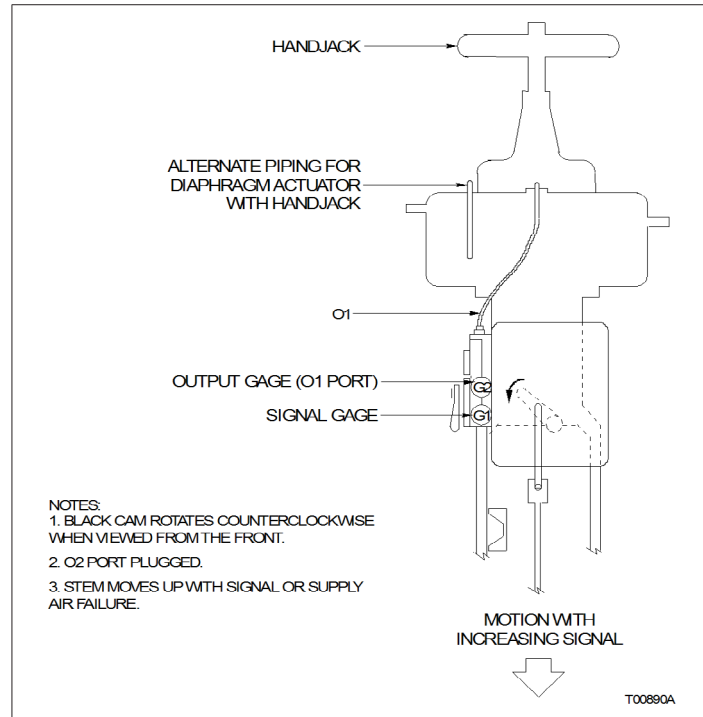
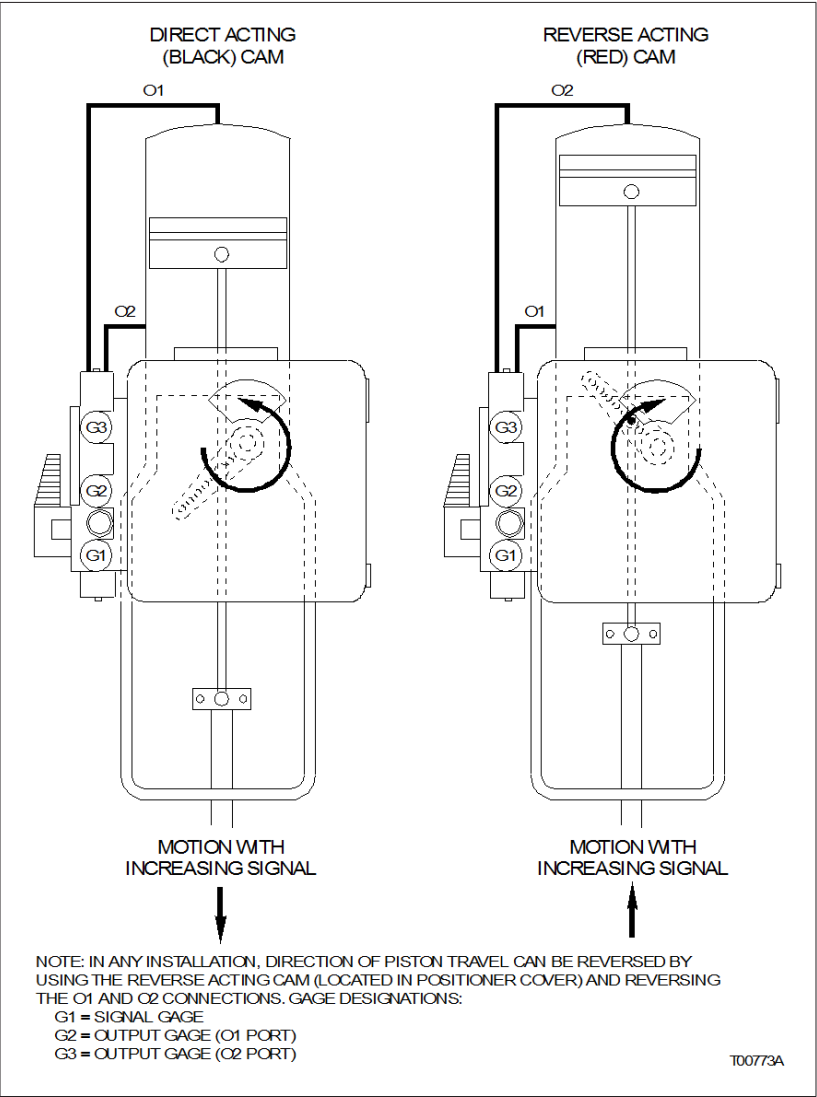

Figure 3-10. Direct Acting, Top Loaded, Single Acting Tubing Example
Figure 3-14. Double Acting Tubing Example
3. Connect the output ports 01 and 02 as required to provide the desired direction of rotation. Figures 3-10, 3-11, 3-12 and 3-13 show single acting tubing examples, and Figure 3-14 shows a double acting tubing example. Air pressure to the 01 port increases from zero toward full supply as the control signal (error) increases. Air pressure to the 02 port decreases from full supply toward zero as the control signal increases.
NOTE: The tubing arrangements shown in Figures 3-10, 3-11, 3-12, 3-13 and 3-14 are typical examples and may not reflect the arrangement required for the application.